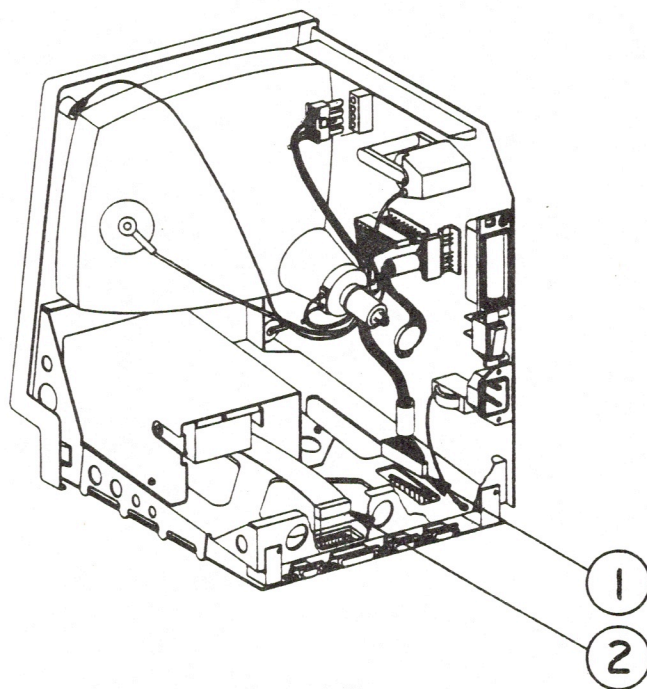

FIGURE 8
2. Remove the main logic cable from the main logic board (Figure 8, #1).
3. Remove the disk drive cable from the main logic board (Figure 8, #2).
2. Replace the main logic cable (Figure 8, #1).
3. Plug in the disk drive cable (Figure 8, #2).